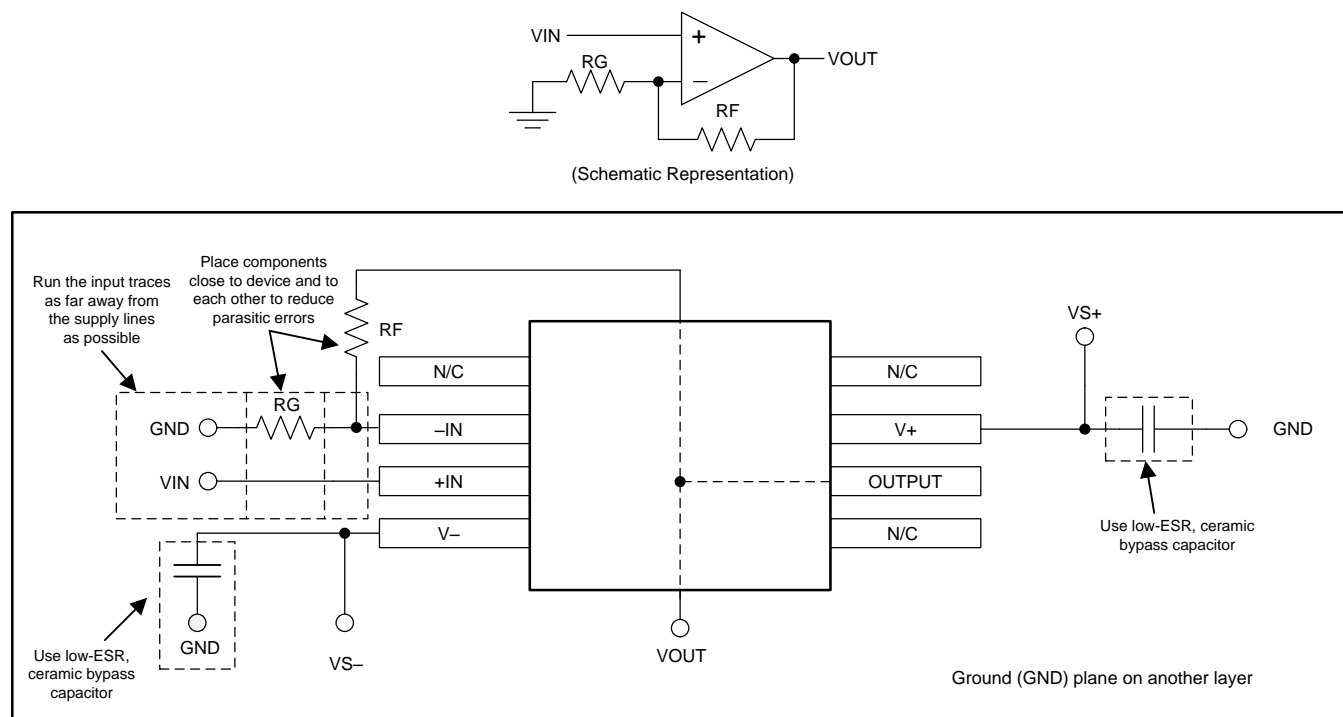

Figure 43. OPA1641 Layout Example
- Place the external components as close to the device as possible. As illustrated in Figure 43, keeping RF and RG close to the inverting input minimizes parasitic capacitance.